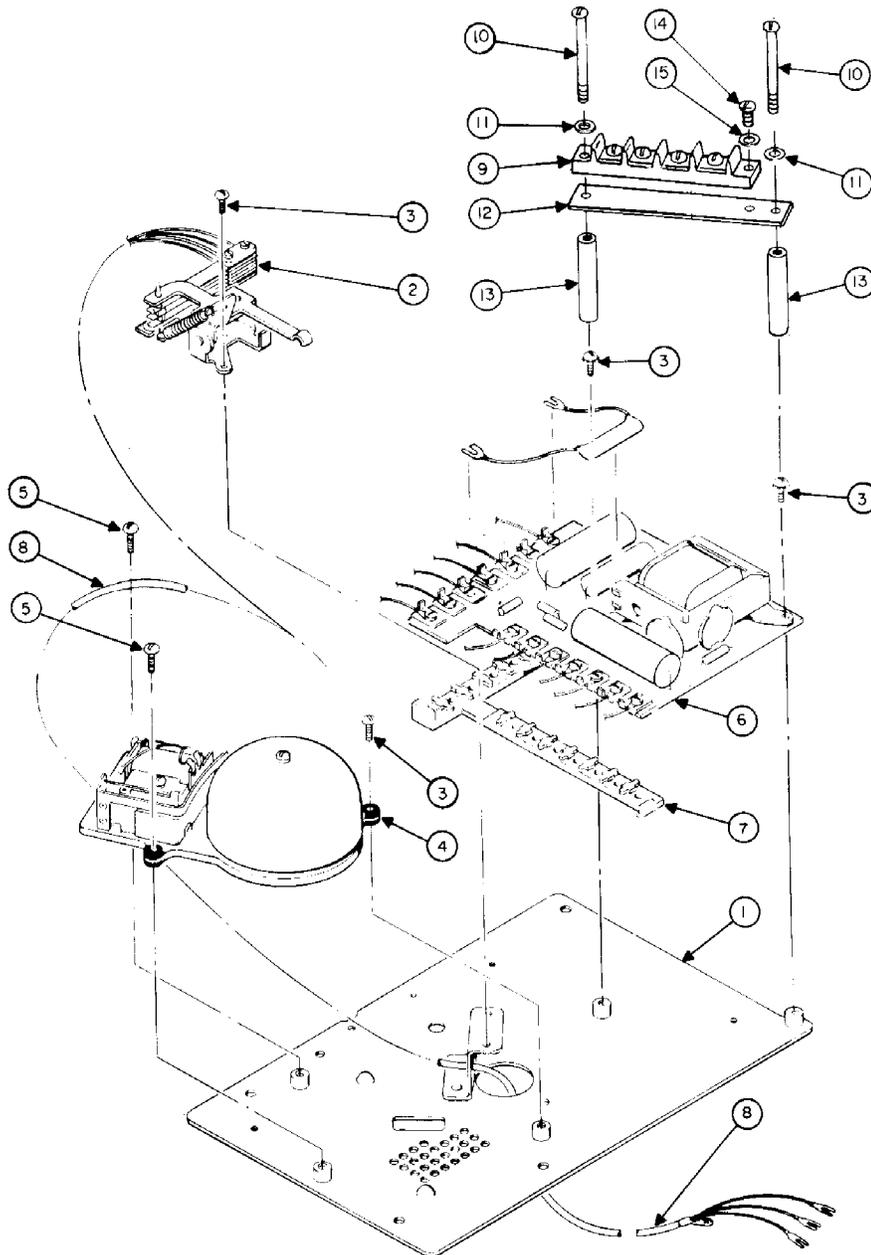

Figure 2. Apparatus Assembly.
4.01 For disassembly of the chest, hookswitch actuator, base, apparatus assembly, dial, or Touch Calling unit, refer to Table 4 and Figure 4. Use Figure 2 and Table 2 for the disassembly of the apparatus assembly. Figure 5 and Table 5 are used in disassembling the handset.
4.04 Remove the apparatus assembly (6) by removing the four screws (7) which hold the baseplate (1, Figure 2), and carefully lifting the assembly out of the base frame (8). Be careful, the dial or Touch Calling leads are connected. The apparatus plate for the dial version is disassembled as described in paragraph 2.07. The Touch Calling version is disassembled as described in paragraph 4.09.
4.09 Disassemble the Touch Calling apparatus plate assembly as shown in Figure 2 as follows:
- (b) Remove the hookswitch (2) by removing the two screws (3) and disconnecting the leads from the transmission unit (6) and terminal strip (9).
- (c) Remove the ringer (4) by disconnecting the leads from the transmission unit and removing the three screws, one (3) and two (5).
- (e) Remove the two screws (10) and washers (11) which mount the terminal strip (9), mounting plate (12), spacers (13) and transmission unit (6). Unsnap the spacer (7) from the transmission unit.
- (f) Release the strain relief clamp of the line cord (8) and handset cord from the baseplate (1).
5.01 For assembly of the base, dial or Touch Calling unit, hookswitch actuator, and the final assembly, refer to Figure 4 and Table 4. For assembly of the handset, refer to Figure 5 and Table 5. Use Figure 2 and Table 2 for assembling the apparatus assembly.